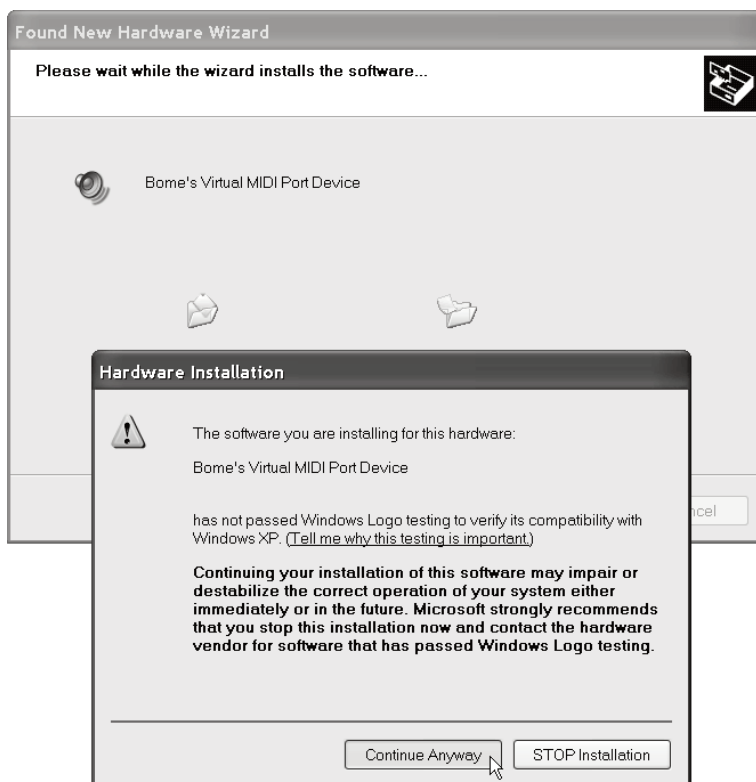

Figure 4.12
12. Click **Continue Anyway**. (Figure 4.12)